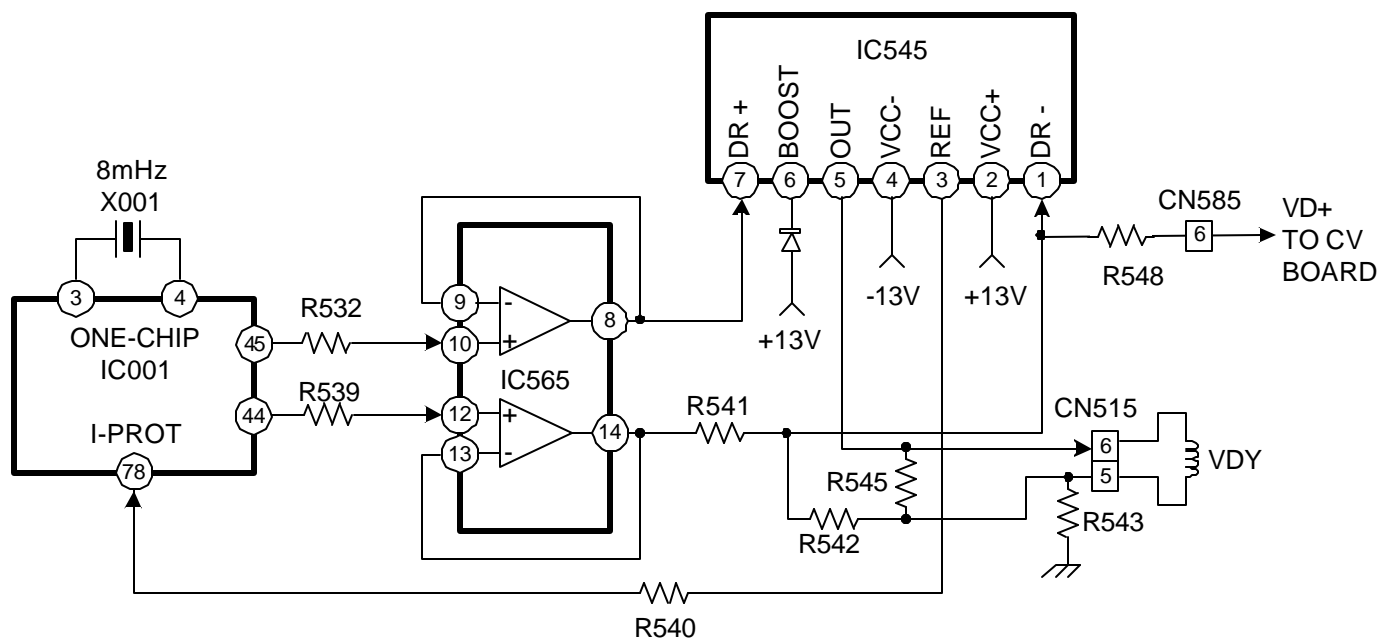

FIGURE 4-2 - VERTICAL DEFLECTION CIRCUIT
**Note:** Reference Figure 4-2 during troubleshooting descriptions.